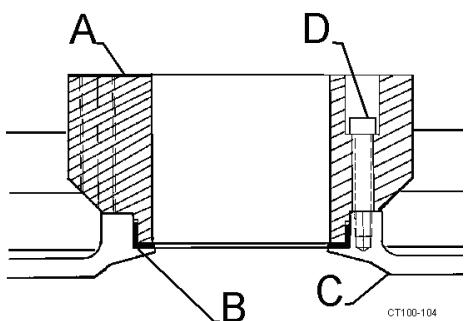

Figure 57 - Insert L-gasket and Fasten Adapter in Place
5. Insert the L-gasket into the backplate. (See Figure 57, items B and C).
6. Insert the cartridge adapter (Figure 57, item A) into the backplate (item C) and tighten with four socket head cap screws.(item D).